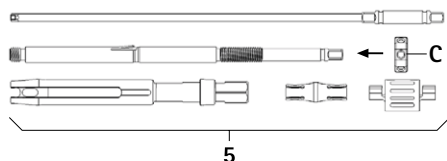

Fig. 10
- Screw lock nut C onto the inner sleeve, see Fig. 10.